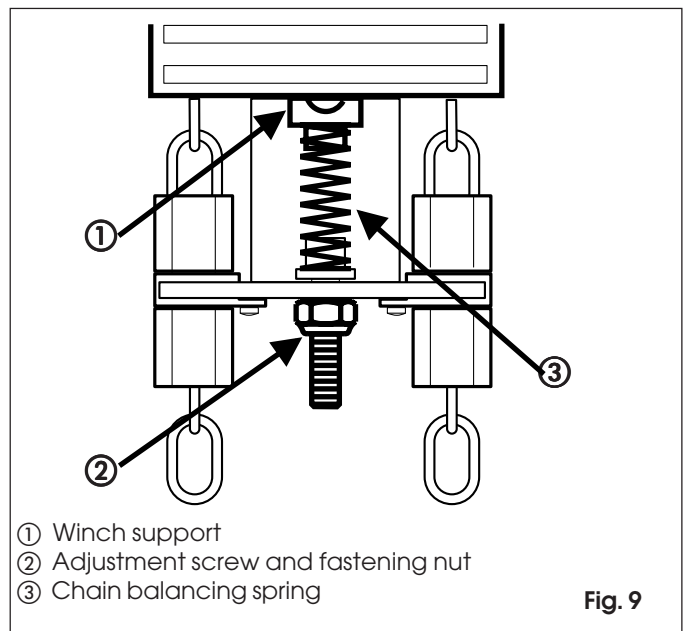
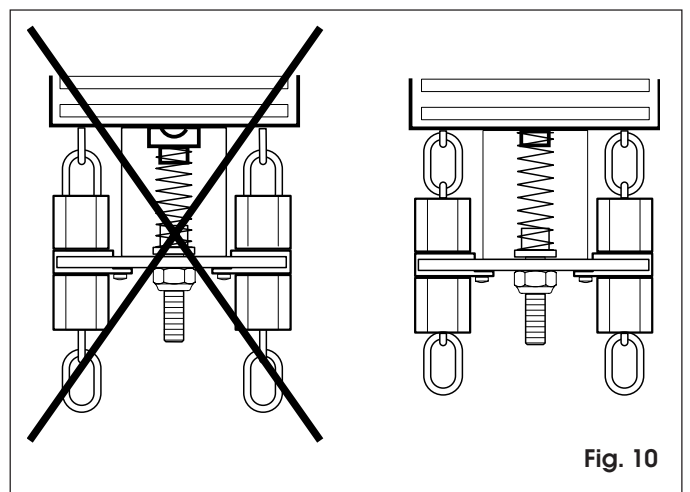

Fig. 9
Fig. 10
Adjust the screw of the balancing spring (see figure 9) so that the winch support disappears completely inside the plastic enclosure (see figure 10).
If you are using the chain extension kit, replace the balancing spring (fig. 9 ref. 3) with the one contained in the kit. If you are using plastic joints, we advise you to glue them together during assembly (see fig. 7 ref. B).